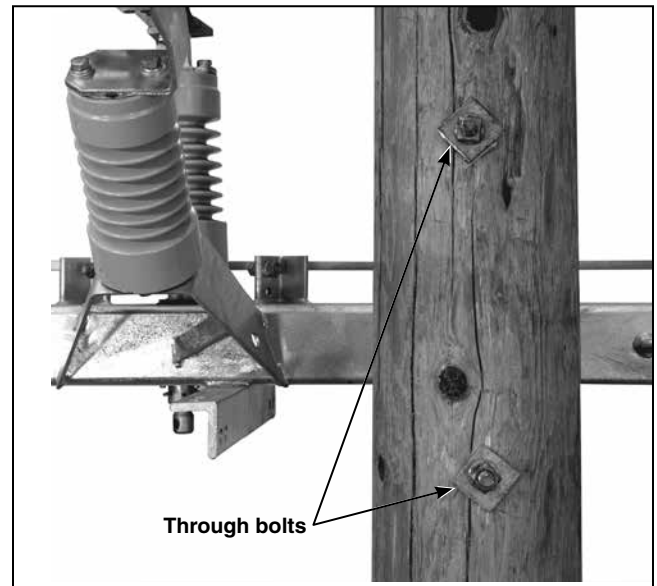

Figure 9. Bolt the switch to the wood pole.
- STEP 7.** Slowly lower the switch until it just bears on the through-bolts. Fully tighten the bolts. See Figure 9. Afterward, remove the lifting slings.